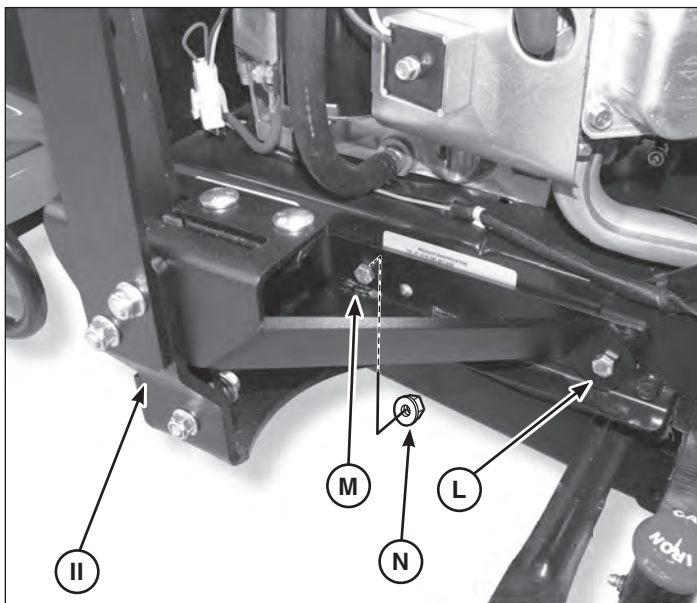

Figure 17
- Position lift support assembly (II) onto right side of tractor frame. Insert capscrew (L, Figure 17) into front hole of lift support assembly.
**NOTE:** For small frame tractor, attach heat shield on top of lift support assembly and secure with capscrew (L).
- Insert capscrew (M) into rear hole of lift support assembly and secure with nut (N).